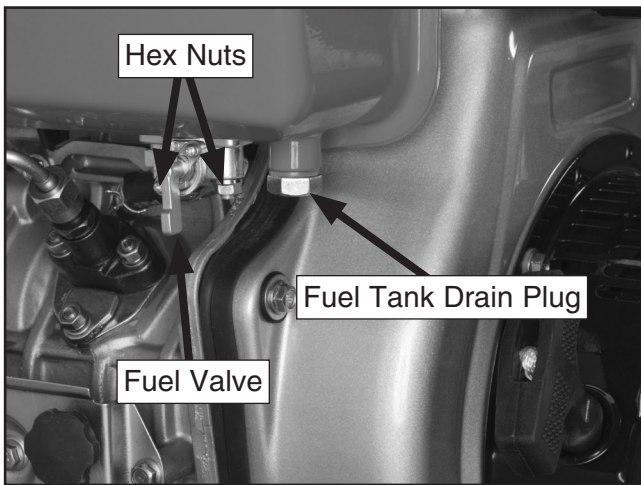

Figure 25. Fuel tank drain plug and fuel valve.
1. Drain the fuel tank by removing the fuel tank drain plug (**Figure 25**). Use a funnel and certified fuel container to capture the fuel as it drains.
2. Remove the two hex nuts shown in **Figure 25**. These hex nuts hold both the fuel valve and the fuel filter in place.